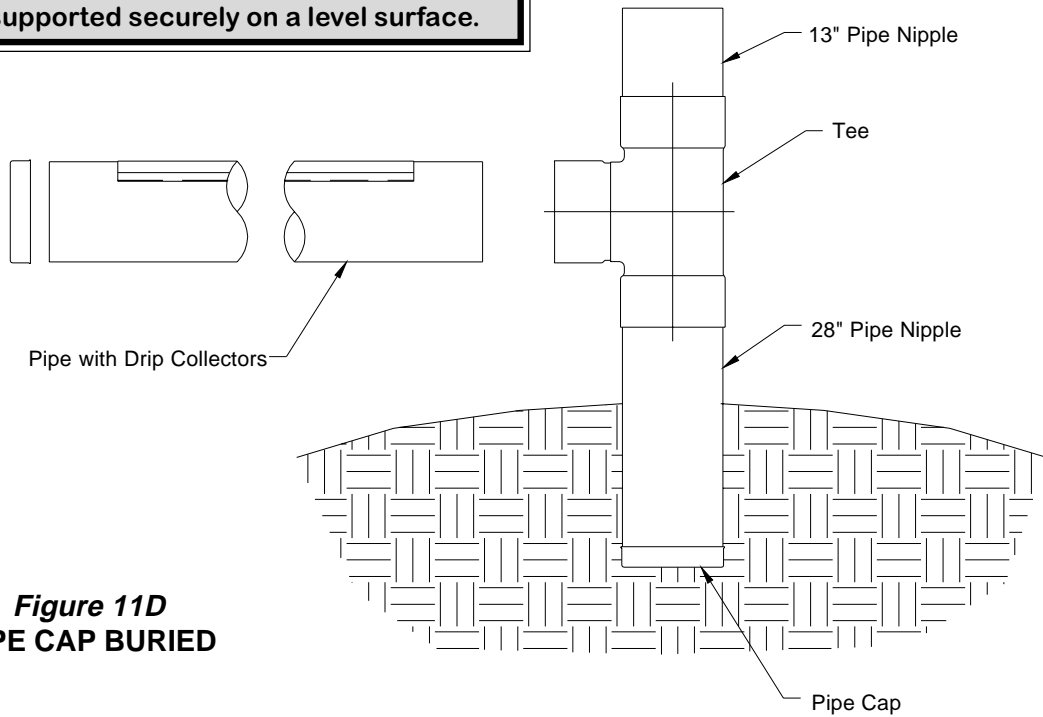

Figure 11D
16) Once the PVC cement has dried use primer and cement and assemble the tee fully onto pipe. Be sure the drip collectors remain on top and the tee is straight up and down. When tee is completely installed the 28" pipe nipple with cap may be buried so that when together it rests on the ground or another support. **See Figure 11D and 11E.**